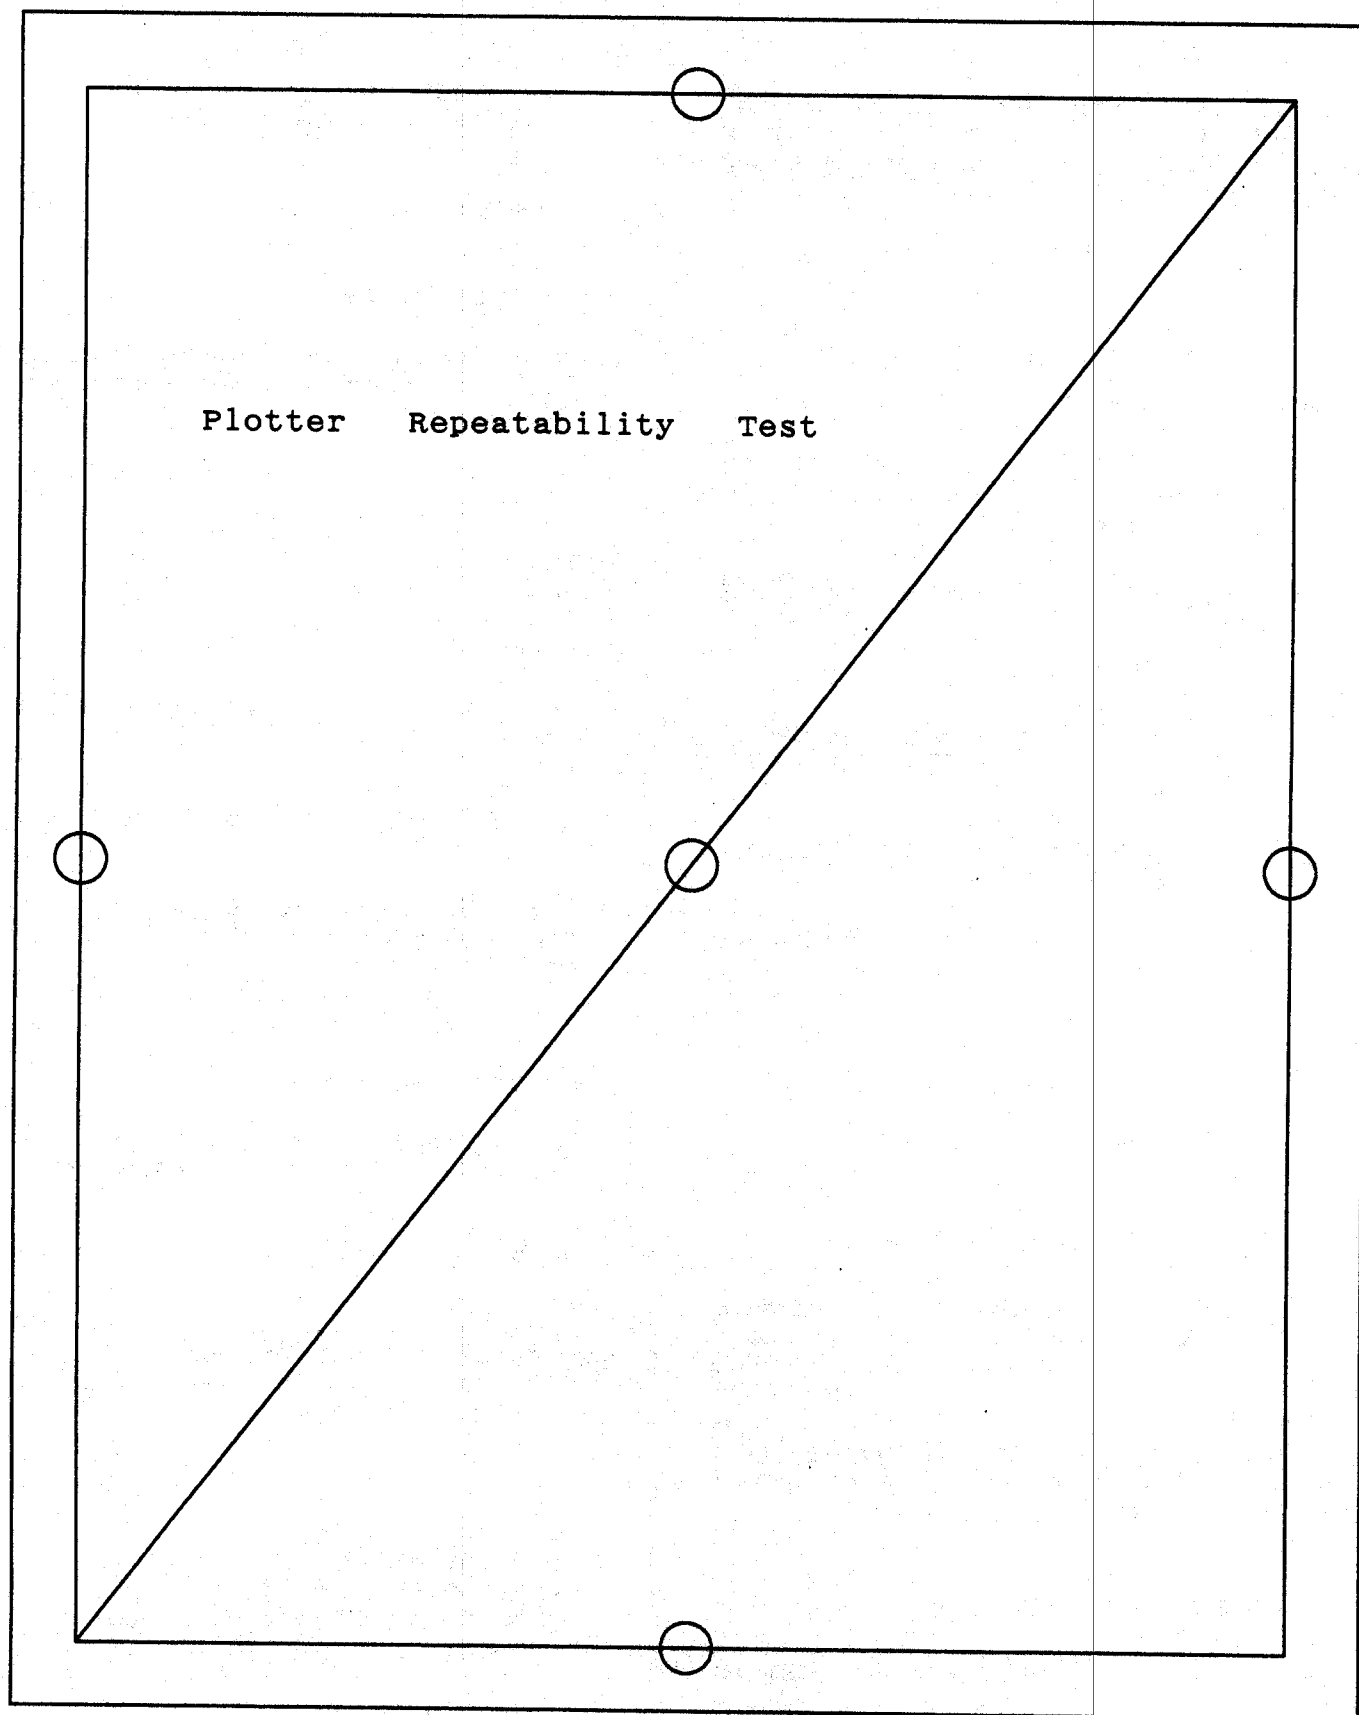

Figure 8-8. Repeatability Test Plot
- h. Run the repeatability test program. The resulting plot is shown in Figure 8-8.